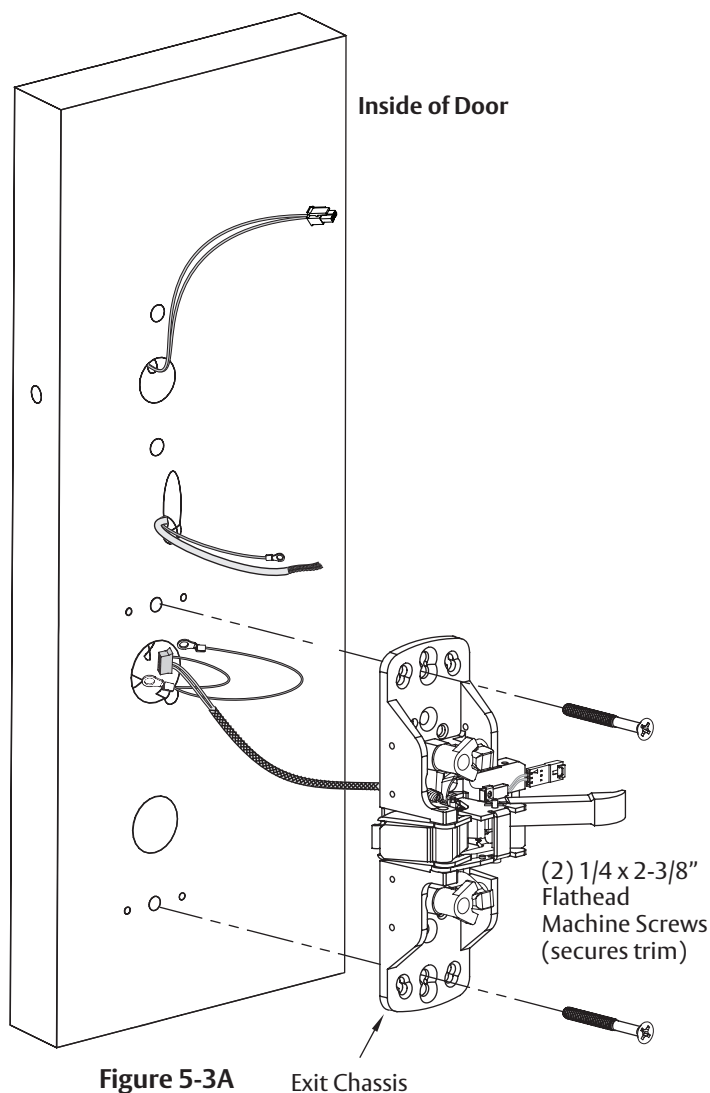
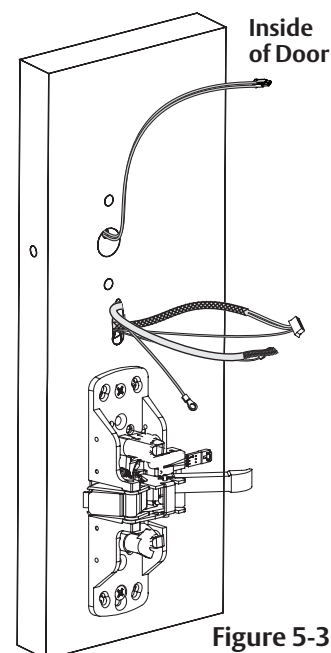

Figure 5-3A
Figure 5-3C
**NOTE:** Exit chassis harness consists of a 6-pin female connector and two different-sized ground lugs (Figure 5-3A).
1. Feed 6-pin connector and larger ground lug straight through to outside of door (Figures 5-3A, 5-3B) while feeding smaller ground lug into wire hole, up through wire channel and out through inside of door (Figure 5-3C).